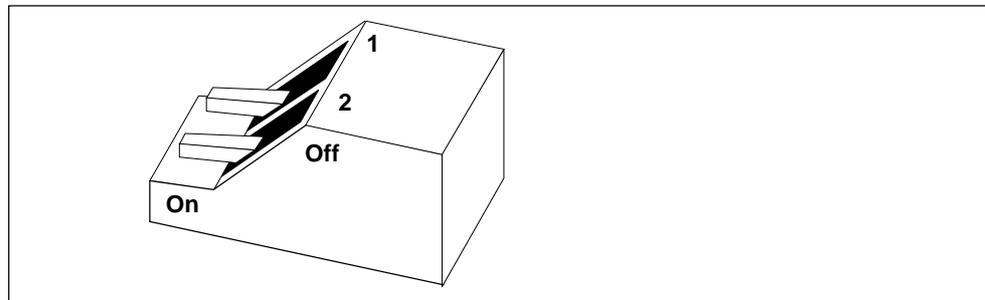

Figure 3-14 Jumper Setting, TTY Port Active
Change the jumper setting as shown in Figure 3-14:
3. Place the two jumpers in the “open” position (refer to Figure 3-14).